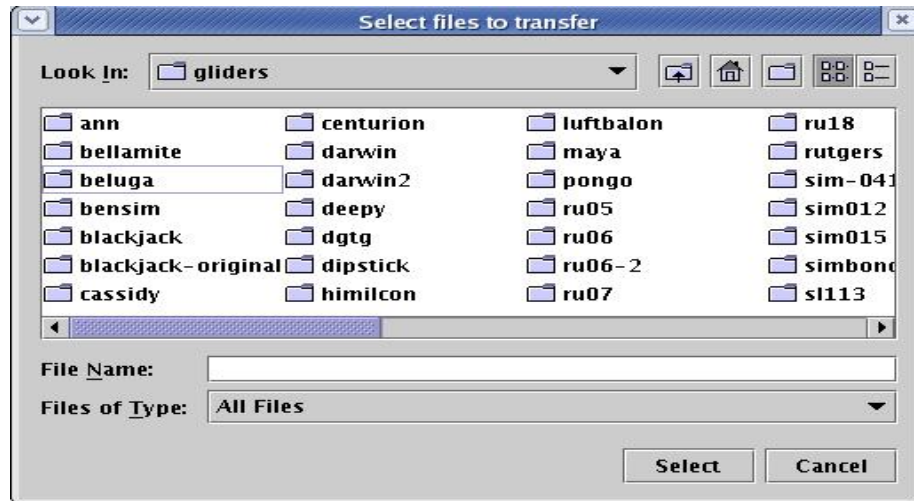

Figure 10-8. Select files to transfer Dialog
2. Select Server/Transfer Data to Server, from the Data Visualizer menu bar. A Select files to transfer dialog (similar to that shown in Figure 10-8) will appear.